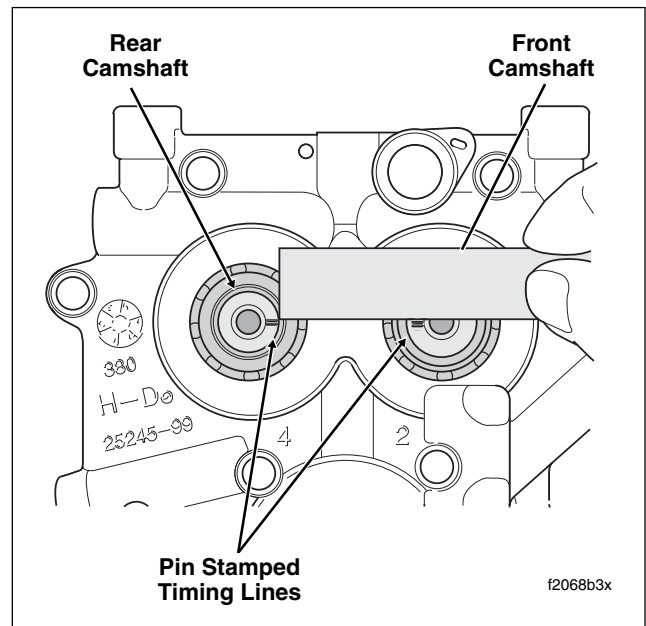

Figure 3-49. Verify Alignment of Timing Lines on Front and Rear Camshafts
15. Using a straightedge, verify that the pin stamped timing lines on the ends of the front and rear camshafts are in alignment (although they may be somewhat difficult to see). See Figure 3-49. If necessary, rotate camshafts in order to make this observation.